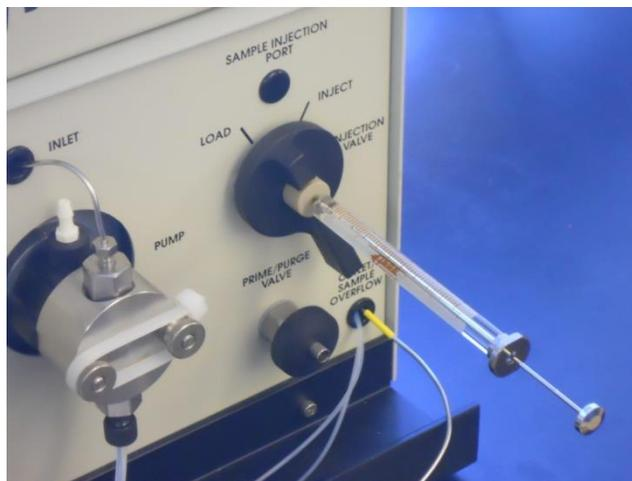

Figure 4. Sample Injection Port with HPLC Syringe Attached
- 9.8.3.3. Insert the syringe needle into the sample injection port. See Figure 4. Sample Injection Port with HPLC Syringe Attached.